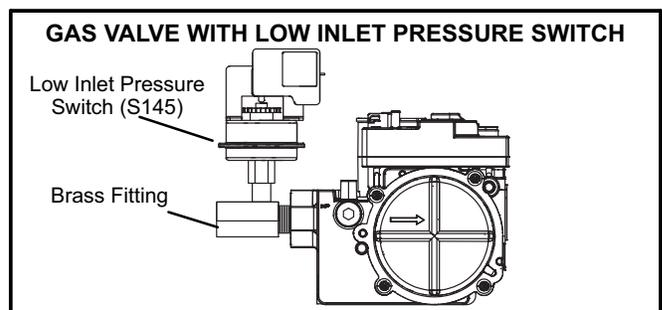

FIGURE 4
11 - Thread provided brass fitting to gas valve inlet until hand tight. Using properly sized wrench, tighten fitting 2 to 3 full turns being careful to position the side port to allow clearance for the pressure switch and harness. See figure 4.
**NOTE** - Some installations may require the pressure switch and fitting assembly to be positioned differently than shown in figure 4.